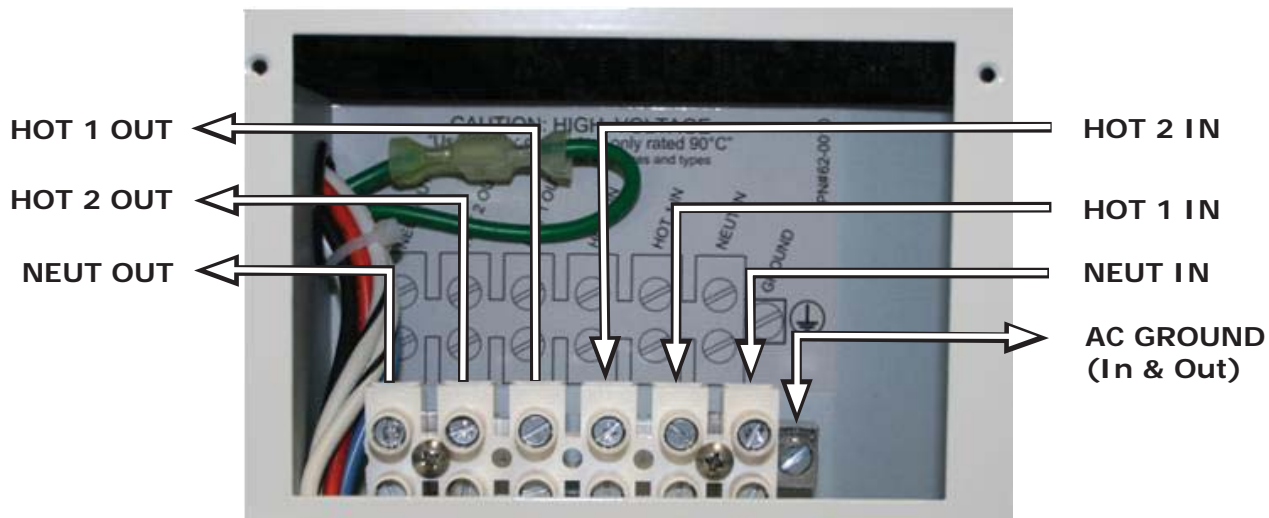

Figure 2-10, AC Terminal Block
The MS2012, MS2812, MS4024 and MS4048 models have a six-pole AC terminal block and one AC ground terminal to connect the inverter's AC input and output wiring. This terminal block (Figure 2-10) allows a service/distribution panel (main panel) to be wired to the inverter's input, and also allows a dedicated panel (sub-panel) between the inverter's output wiring and the AC loads. To access and view the AC terminal block and ground terminal, remove the two Phillips screws holding the AC wiring access cover plate (see Figure 1-3, Item 15).
1. Remove the two Phillips screws on the AC wiring access cover (Figure 1-3, Item 15) to access the internal AC terminal block (see Figure 2-10).